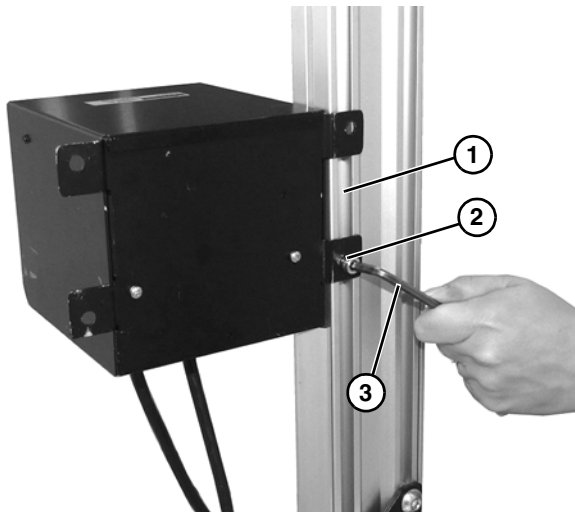

Figure 22
1. Place 1st T-bar into T-slot (**Figure 22, item 1**), insert screw (**Figure 22, item 2**) into hole in lower mounting tab and, using a 4 mm hex key wrench (**Figure 22, item 3**), partially thread into T-bar.